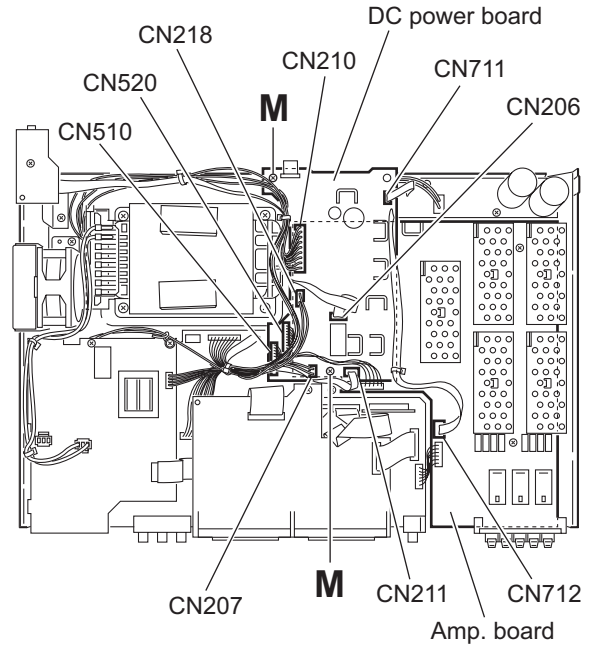

Fig.14
3.1.10 Removing the DC power board (See Fig.14)